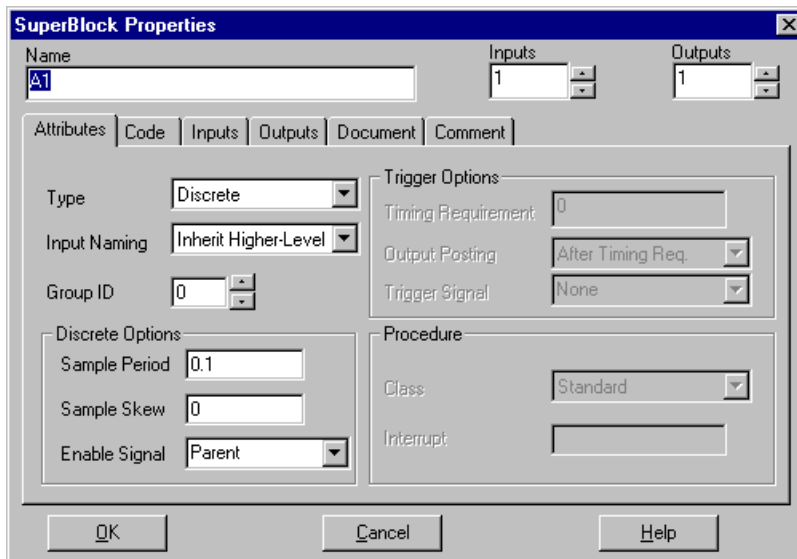
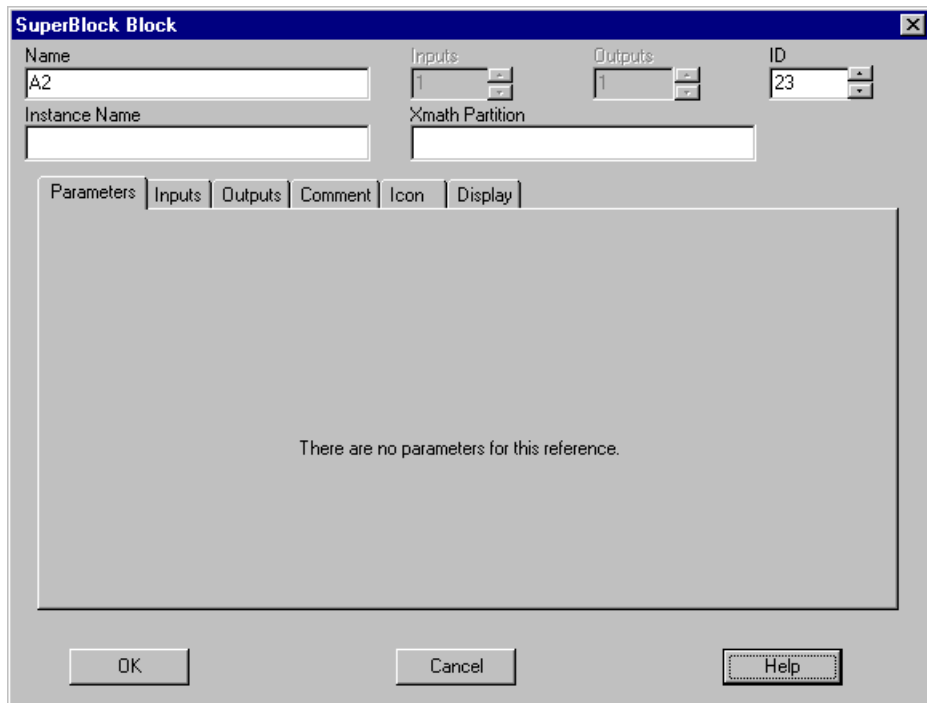

FIGURE 3-3 SuperBlock Properties Dialog
FIGURE 3-5 SuperBlock Block Dialog that References an Existing SuperBlock
To create a new SuperBlock, go to the Catalog Browser and select File→New→SuperBlock. The SuperBlock Properties dialog (Figure 3-3 on page 3-4) will be raised. You must provide a name. A legal SuperBlock name is a string of no more than 32 characters. It must start with an alpha character, but it can also contain numbers, spaces, and underscores. Punctuation characters, such as period, comma, percent, or slash, are not allowed; if they are used they will be replaced with underscores. Because SuperBlock names must be unique within a catalog, a fatal error will be issued if an existing name is specified.
This dialog first appears when a SuperBlock is being created from the Catalog browser. When a SuperBlock is being edited, you can raise this dialog with a single click on the SuperBlock ID bar (the strip of SuperBlock information that appears below the editor's icon bars and above the diagram work area), or by selecting File→SuperBlock Properties. Figure 3-3 shows a SuperBlock Properties dialog.
To view the SuperBlock Block dialog, select a SuperBlock icon and press Return. See Figure 3-5 on page 3-11 for an example of a SuperBlock Block dialog.
A SuperBlock definition is saved in the Catalog hierarchy. References are local instances of a SuperBlock. If the SuperBlock is currently open in the editor you can edit the SuperBlock properties; any changes are global and will affect the model at every instance, SuperBlock instances are represented by a block; because the definition of the SuperBlock is elsewhere, you can only edit parameters local to the block, such as the name, labeling, and icon appearance. The SuperBlock reference dialog is shown in Figure 3-5; compare this to the SuperBlock Properties dialog in Figure 3-3 on page 3-4.
You can edit a SuperBlock’s properties if the SuperBlock is currently displayed in the editor. Single-click on the SuperBlock ID bar to raise the SuperBlock Properties dialog (Figure 3-3 on page 3-4). If you change the SuperBlock **Name** field from this dialog, a copy of the current SuperBlock with the new name will appear in the Catalog. The original definition and any references to it are unaffected.
- When you change the **Name** field from a reference's SuperBlock block dialog (Figure 3-5 on page 3-11) only that block is renamed.